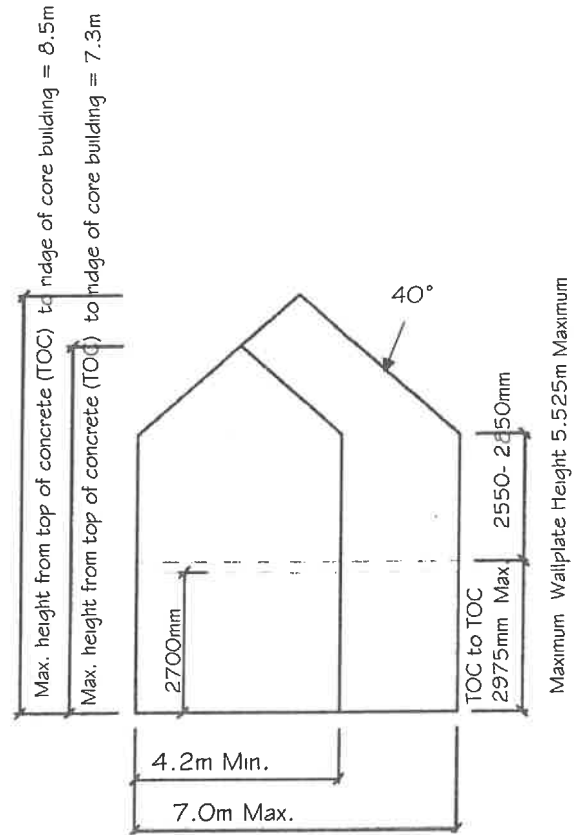

Figure 16: Prescribed wall plate height and gable widths for DOUBLE STOREY dwellings
- Double Storey Dwelling: 4.2m min. – 7.0m max. (Figure 16)